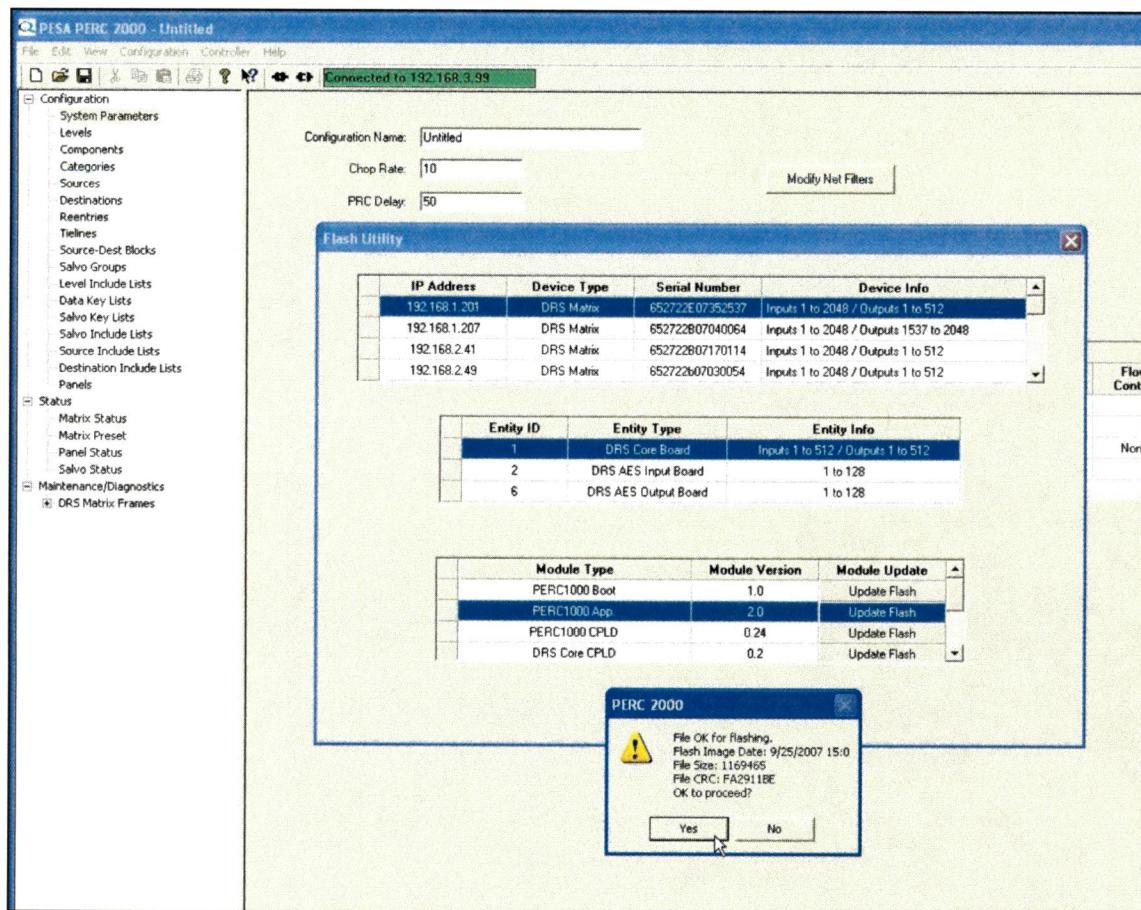

Figure 26. Caution Dialog Box
- ☐ 8. The OK to proceed? window, Figure 26, is displayed. Click the **Yes** button to begin the reprogramming operation.